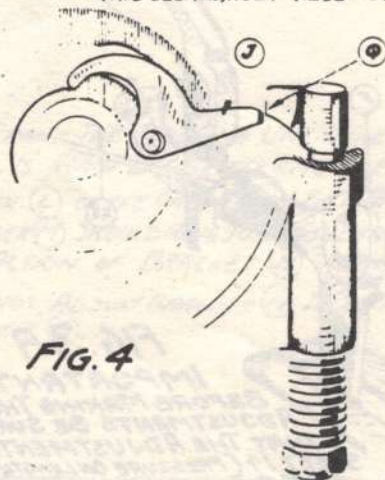
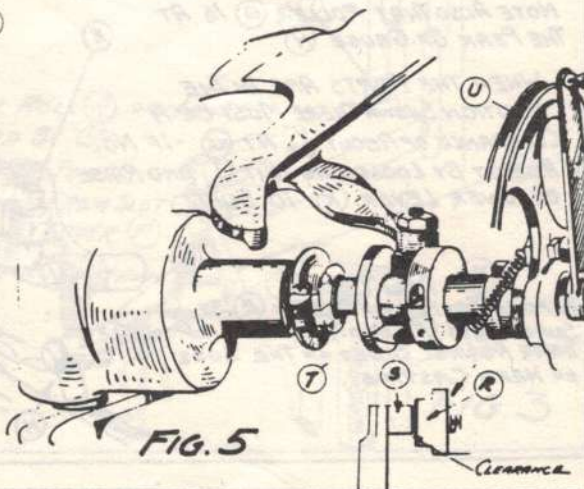

FIG. 4
FIG. 5
TO ADJUST THE TIMING OF THE L.H. HANDWHEEL IN RELATION TO ROCKER SHAFT AND LEVER (CRANK THE MACHINE BACK UNTIL STOP BOLT CONTACT POINT (Q) BARELY DISENGAGES DOG (J) AS IN FIG. 4 - CONTACT POINTS (S) AND (R) ON L.H. HANDWHEEL SHOULD JUST CLEAR AS SHOWN IN DETAIL (FIG. 5) - IF NOT, LOOSEN SCREW (T) IN SPOOL AND MOVE WHEEL (U) IN OR OUT TO OBTAIN THIS CLEARANCE. RESET THE SET SCREW (T) SECURELY.